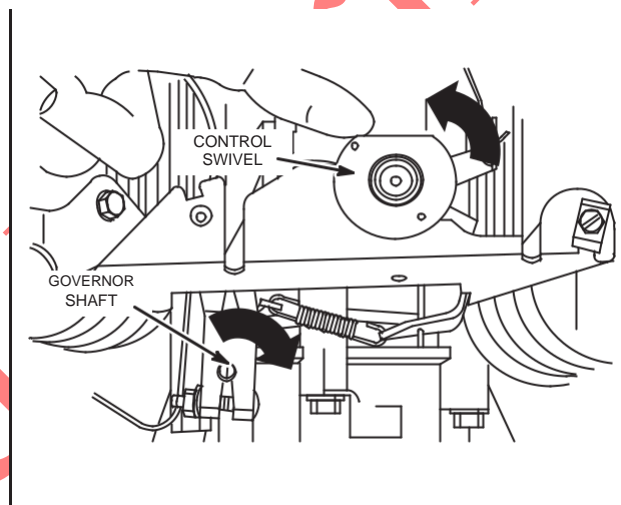

Fig. 24 – Adjust Governor
2. Rotate governor shaft clockwise as far it will go, Fig. 24.